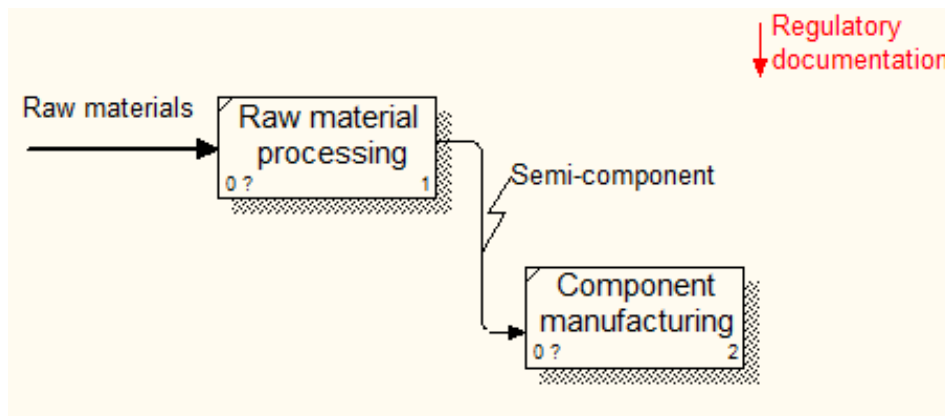

Fig. 2.3. The diagram fragment
12. Check your work (fig. 2.3).